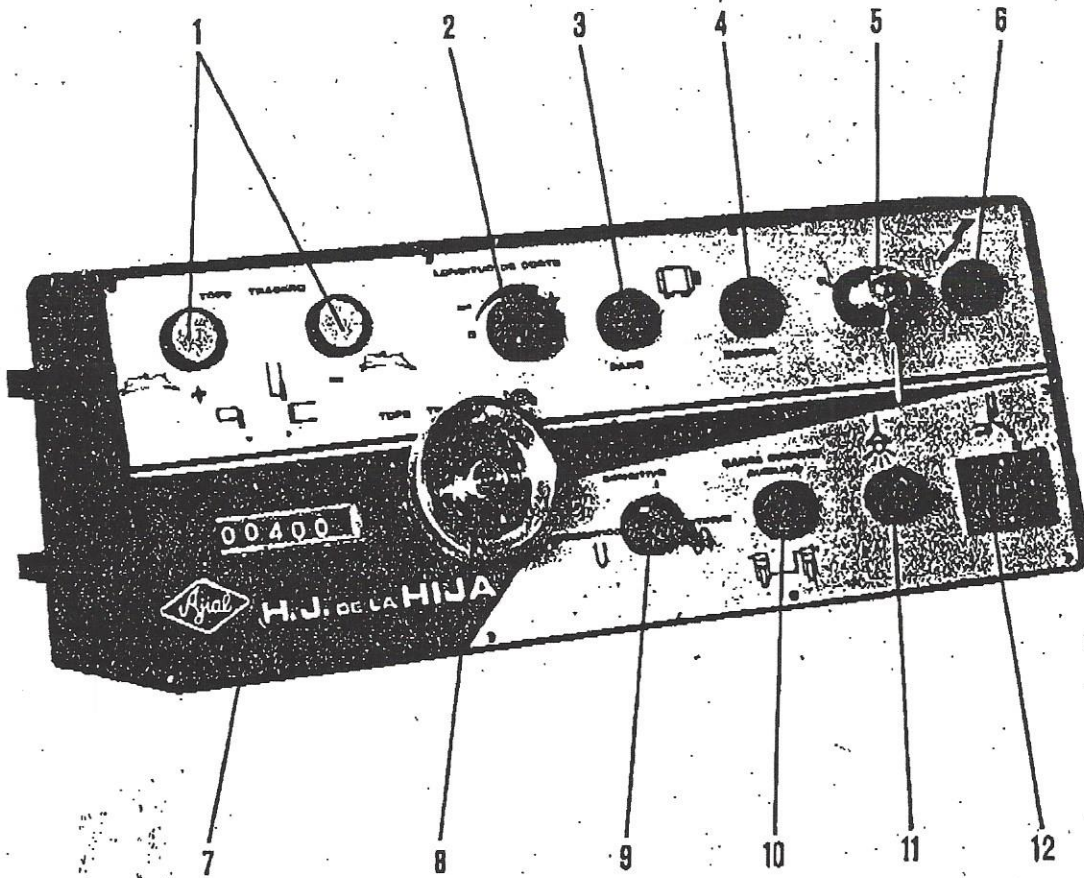

FIG. 1
1. Set the mode selector switch (No. 9, Fig. 1) in single stroke position.
3. Stroke down the swinging beam to bottom position and keeping the foot switch actuated, close the shut off valve (8) on the left side of the shear.
The left hand lead screw is driven by sprockets and chain on the front of the lead screws. The chain tensioner sprocket (17) provides correct chain tightness and is adjustable. The fine adjustment of the gauge position is made by a hand-wheel (8 fig. 1) located in the control panel. Parallel adjustment of back gauge bar to lower blade is made by adjustment screws on the nut housing (15).
Rotation of the cutting length knob (Fig. 1, No. 2) changes the swinging beam stroke. Shortening of the stroke will increase the production rate of the pieces due to the reduced cycle time. By turning the cutting length control completely to the left, the regulation of the stroke control is by-passed. Then the stroke length control can be regulated by release of the foot switch at the desired time.